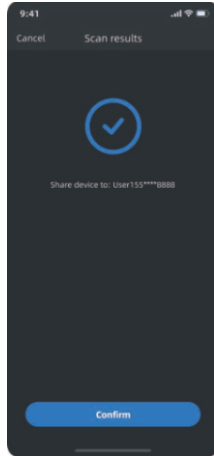

Figure 3
3) Figure 3: When there is only one device under your name, click **"Confirm"** to complete the sharing; If it fails, you can follow the prompts to share again.